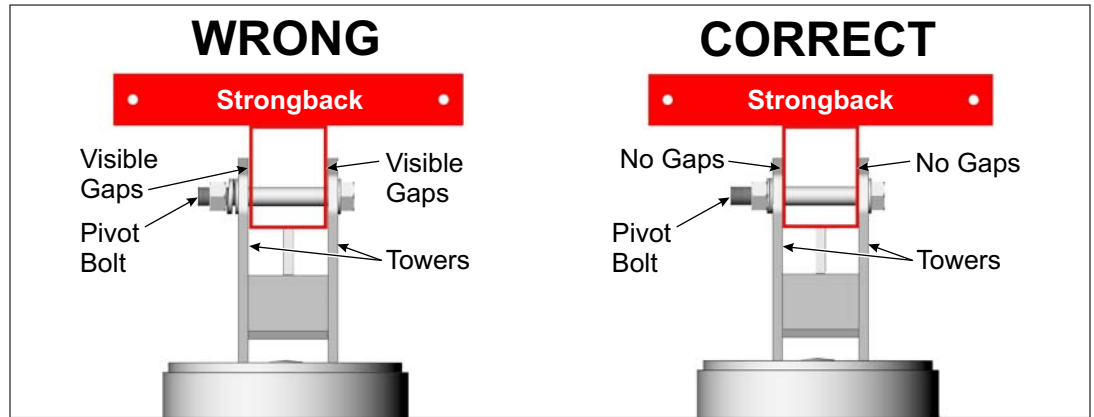

Figure 7-3: Tighten and Torque the Pivot Bolt
- C. Re-tighten the Pivot Bolt. After changing the tilt angle and tightening the Support Bar hardware, the Pivot Bolt must be re-tightened. The Pivot Bolt cannot be left loose - the Mounting Sleeve Vertical Towers must be firmly clamped to the sides of the Strongback, eliminating any gaps between the Vertical Towers and the Strongback. **Torque to 125-150 ft.-lbs.** (See Figure 7-3)